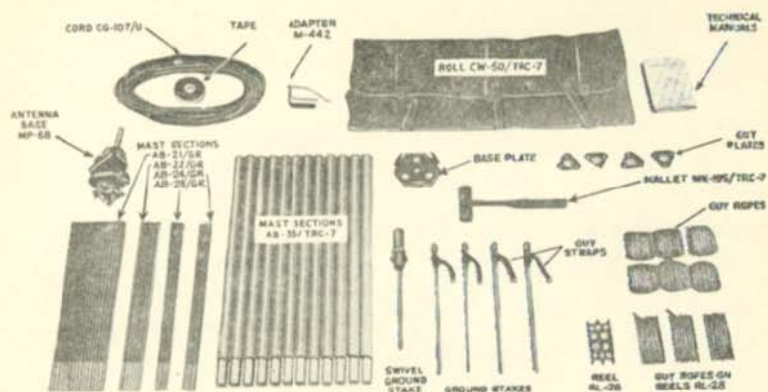

Figure 14 - Antenna RC-292 Components
88. When selecting a site, ensure that the coaxial cable (68 feet long) CG-107/U (figure 14) will reach the radio set location. This cable should be protected from cuts or fraying.